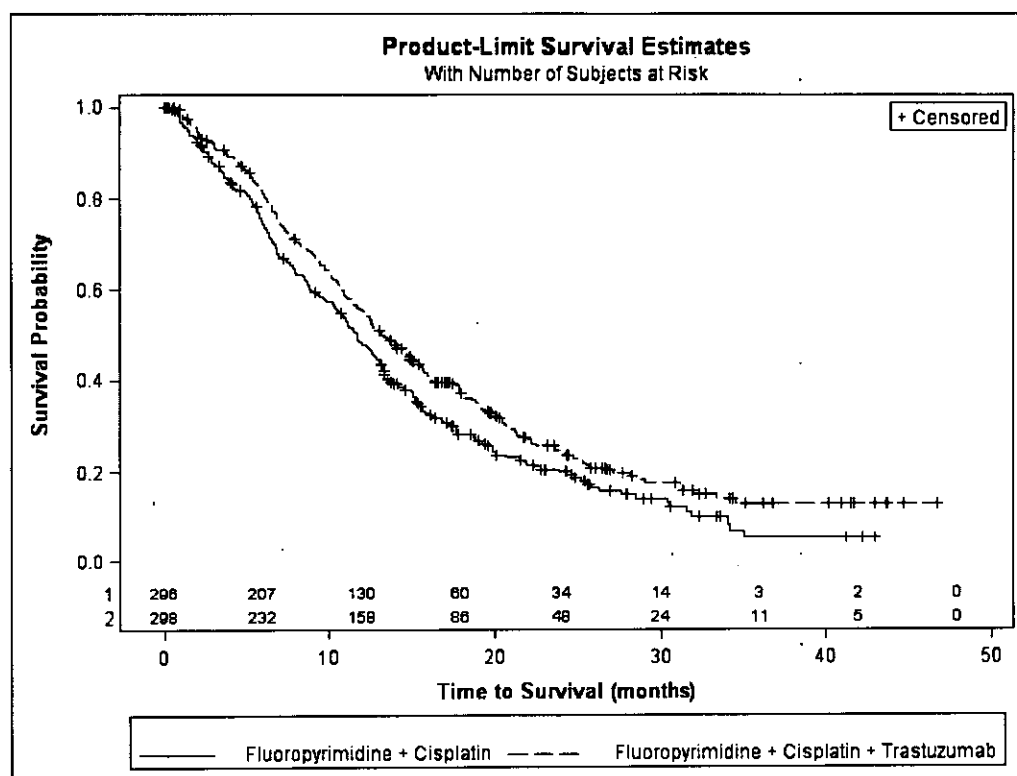

Figure 1. Updated Overall Survival in Patients with Metastatic Gastric Cancer
The main efficacy outcome measure was overall survival (OS) analyzed by stratified log rank test. The final OS analysis based on 351 deaths was statistically significant (nominal significance level of 0.0193). An updated OS analysis was also conducted at one year after the final analysis. The median overall survival of 13.5 months on the Herceptin® plus chemotherapy arm was significantly longer compared to 11.0 month median overall survival on the chemotherapy alone arm. The efficacy results of both the final and the updated analyses are summarized in Table 10 and Figure 1.